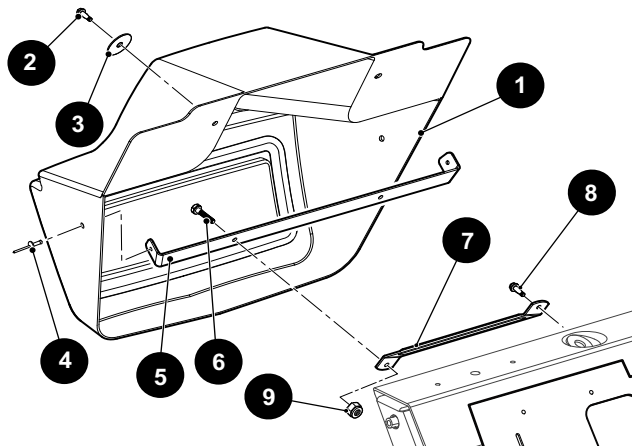

Figure 6 Front Fascia Replacement
The front fascia (1) need not be removed to replace any other body components (Figure 6).
1. If the front fascia (1) is damaged, remove two bolts (2) and washers (3) securing the front fascia (1) to the frame (Figure 6).
2. Remove the two rivets (4) securing the front shield to the bracket (5).
3. If a bracket (5) is damaged, remove hex head bolts (6) and nuts (9) securing bracket (5) to the frame after removing the front fascia (1).
4. Install in the reverse order of removal using new rivets (16).